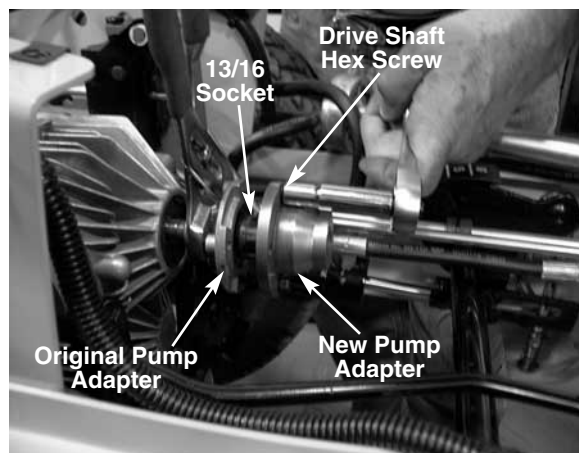

FIGURE 5.
11. Place the new pump adapter, cupped side in, over the opened end of the 13/16 socket. See figure 5.
13. Using a 3/8 socket, tighten the hex screws equally a quarter of a turn at a time until the old hub breaks free. See figure 5.
14. Remove the hex screws and new hub. See figure 5.